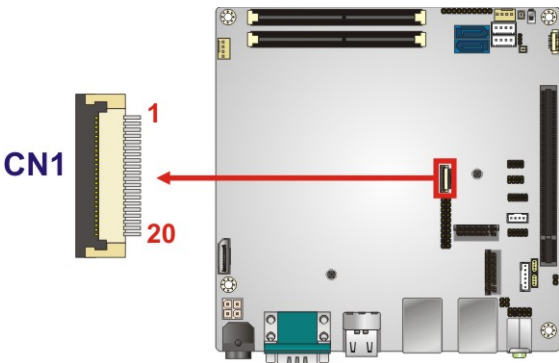

Figure 3-10: EC Debug Connector Location
- CN Location: See Figure 3-10